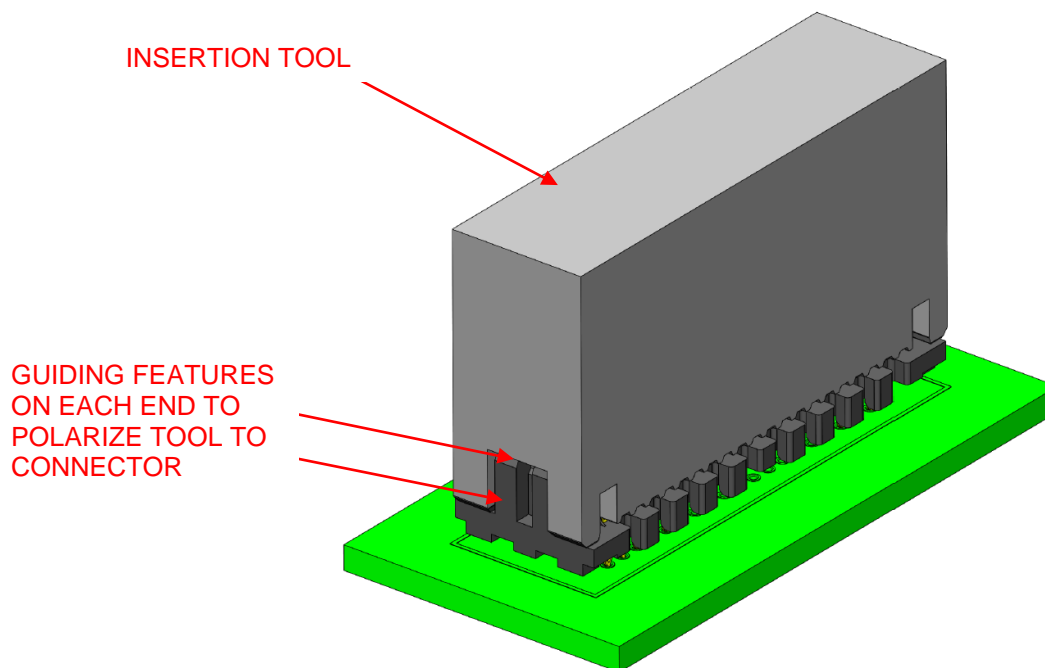

Figure 2: Align & Place Insertion Tool Onto Connector
- Place insertion tool into the connector assembly, the tool should nest into the connector as shown in figure 2. No under board tooling is required as the connector leads do not exit the bottom surface of the PCB. (see Insertion Tool table for specific part number)